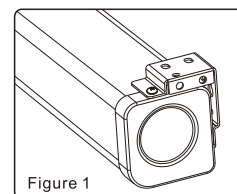

Figure 1
2. There are two way for wall brackets to fix on the housing. As you can see on the figure 1, which is our normal fixed way (namely factory set). While the other fixed way is to interchange the left and right wall brackets, and then fix onto the housing (namely functional installation way, as figure 2).
Using a tape measure, measure the distance between the two keyholes on the casing (figure 1). According to the measurement, use the drill to drill identical holes of the appropriate size on the wall (use a smaller drill bit than the actual screws) and ensure that it is level (figure 2 & 3). Screw in the appropriate screws, either 5 x 40 by itself for wood walls or with anchors for drywalls, leaving enough space at the end to hang the casing (figure 4). To ensure that the screen is level, use a level to check (figure 5).
Using a tape measure find out the distance between the two keyholes on the casing (figure 1). According to the measurement, use the drill to drill identical holes of the appropriate size on the ceiling and ensure that it is level (figure 2 & 3). Screw in the hook screws (not provided), and lift the screen into the hook screws to hang (figure 4). To ensure that the screen is level, use a level to check (figure 5).